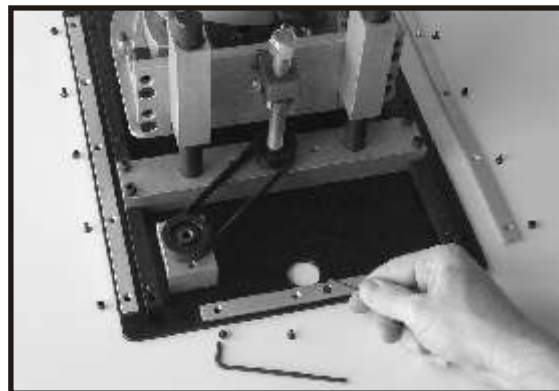

FIG. 6
1. Place the Rout-R-Lift™ upside down on a flat surface. Take the four leveling bars (2 long and 2 short - items #3 & #6 from the parts list) and position them along the corresponding edges of the underside of the top plate (Fig. 6). Each bar attaches with two of the 6-32 x 5/16" flat head cap screws (item #4 from the parts list) using the 5/64" hex wrench supplied. Insert each of the (10) 1/4-28 x 1/4" set screws (item #5 from parts list) into the tapped holes at each end of the leveling bars and one in the center of each long bar. Thread the set screws in until they just bottom out without raising the leveling bar from the plate underneath.
1. To adjust the thread tension, turn the Rout-R-Lift™ upside down on a table with the threaded height adjustment rod facing you (Fig 6).
2. With a 7/16" open end wrench, loosen the 1/4 - 20 hex nut (Item# 21) located behind the plate the threaded rod (or lead screw) is mounted on (Fig. 6).